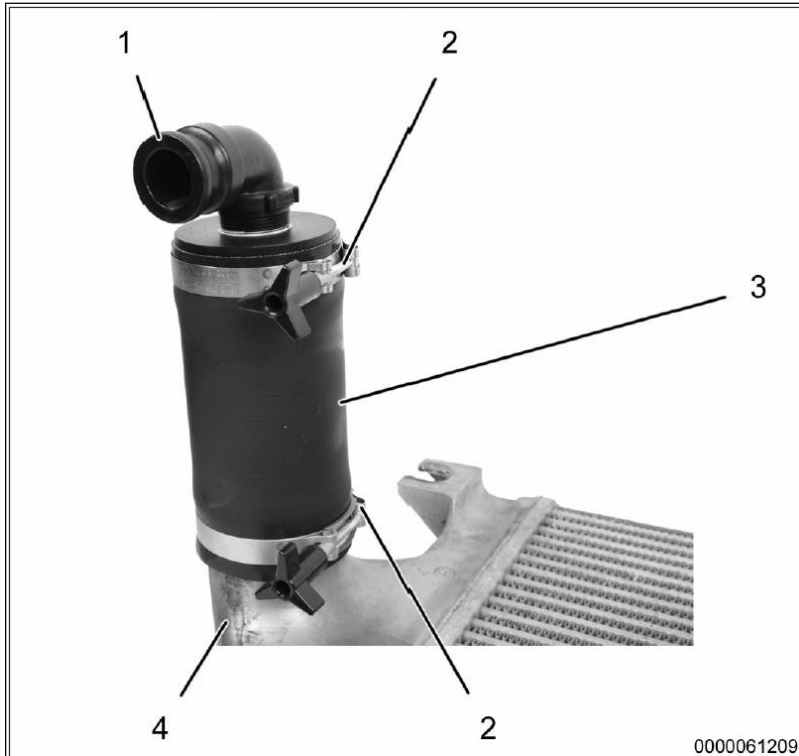

Figure 2: CAC Outlet Adapter
- Item 2: T-Clamp (2)
4. With Charge Air Cooler (CAC) on a flat surface, install large hose (**Figure 2**, Item 3) on CAC Outlet (**Figure 2**, Item 4) with T-clamp (**Figure 2**, Item 2).
5. Install adapter (**Figure 2**, Item 1) in large hose (**Figure 2**, Item 3) with T-clamp (**Figure 2**, Item 2).